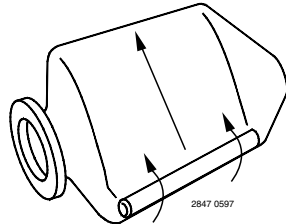

Figure 4 – Roll diagonally toward neck
- B. To get tightest possible wrap, start on one side at top and **TIGHTLY** roll water cell diagonally to other side (see Figure 4). To force out as much air as possible, be sure to roll toward water cell neck opening.